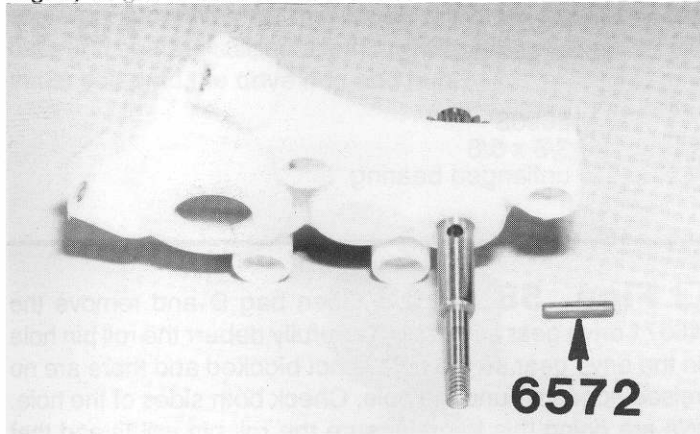
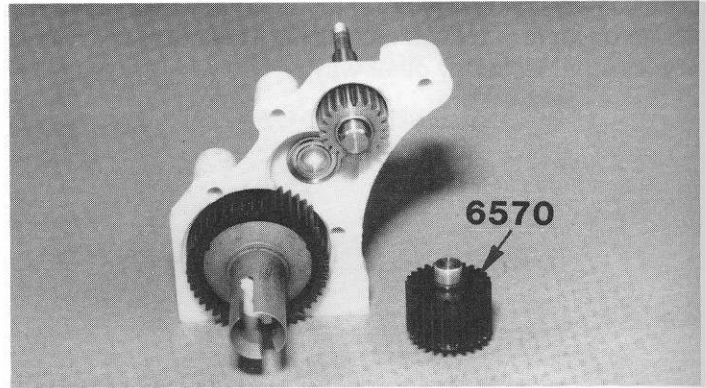

Fig. 60
Fig. 62
□ **Figs. 60 & 61** Open bag E and remove the #6572 1/16" roll pin. Now using a pair of needle nose pliers, squeeze the roll pin into the hole in the #6571 drive shaft and center the pin. You may need to squeeze the roll pin slightly to get it started in the hole.
□ **Figs. 62 & 63** Install the assembled diff into the right case half lower bearing as shown in fig. 60. Make sure that you install the diff bolt head side through the right case half. **Note:** If you install the bolt head so that it is on the driver's side of the transmission, you may have a problem with the diff backing off. Locate the #6570 idler gear and shaft from bag D and install it into the center bearing of the right case half. There is no right and left gear side, so it can go in either way.